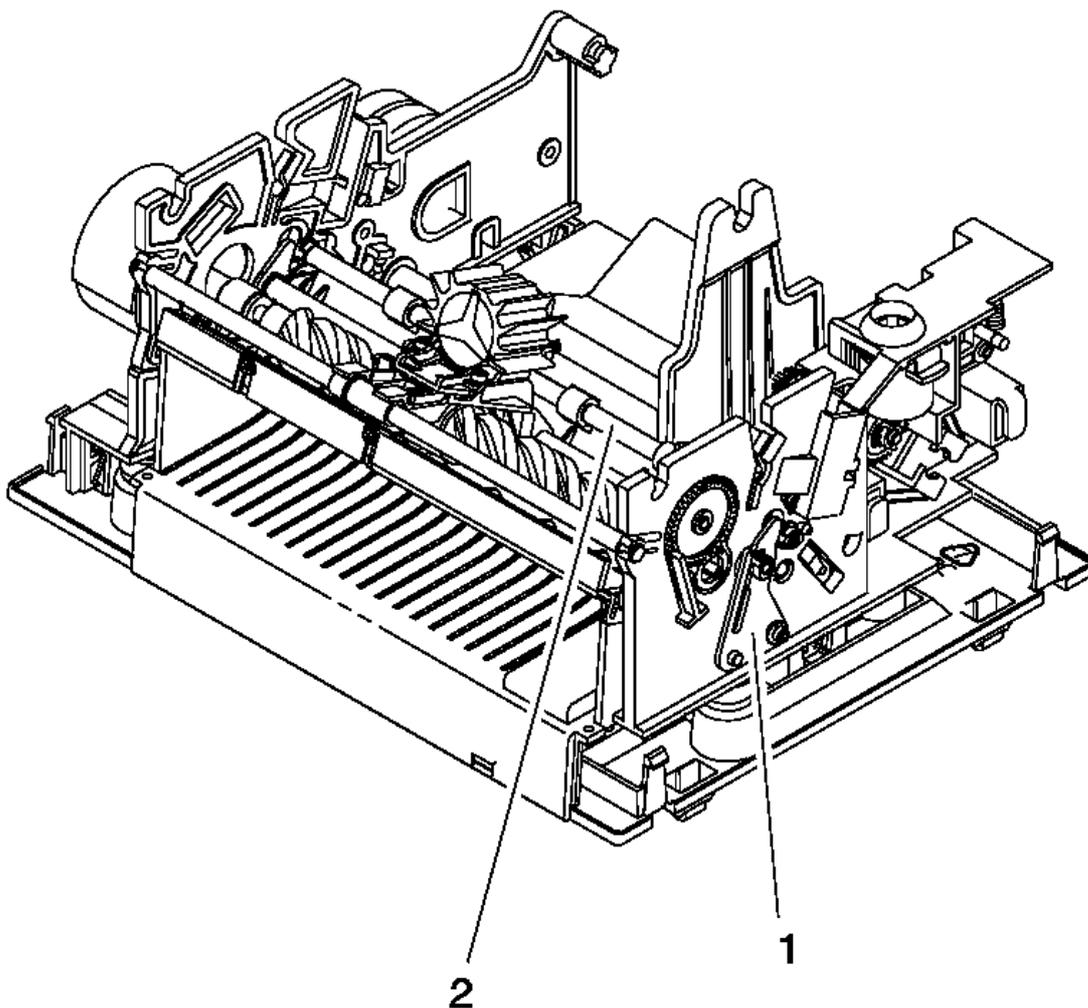

Figure 6-16. Forms Compensation Hardware
- Pull the forms compensation shaft forward toward the front of the printer and then allow it to return to its original position. Move the forms compensation shaft using lever (1) in Figure 6-16.
- Slip a piece of paper under the four metal rollers on the shaft, (2) in Figure 6-16.